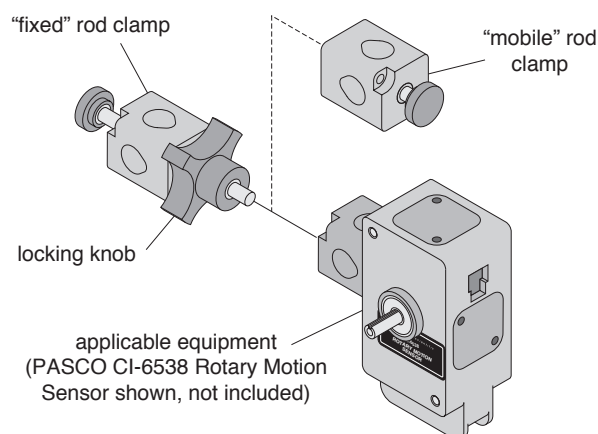

Figure 3: Alternate Use for the Adjustable Angle Rod Clamp
- ① Follow steps one and two above.
- ② Loosen the locking knob, and remove the mobile rod clamp.
- ③ Replace the mobile rod clamp with a piece of equipment that has a 1/4 - 20 thread. See Figure 3.
- ④ Rotate the equipment to the correct orientation then secure it with the locking knob.